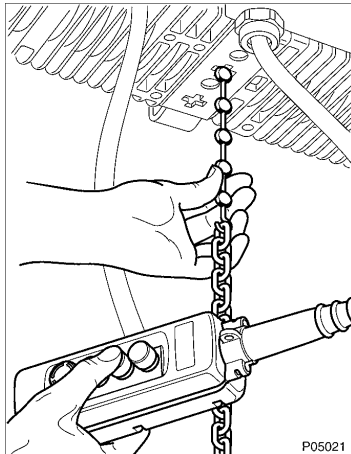

Figure 5.4
1. Attach last link of chain onto hook of CHAIN INSERTION TOOL (item 1, Figure 5.4).
1. If the chain insertion tool is not in the hoist (removal procedure), attach last link of chain onto hook of CHAIN INSERTION TOOL (item 1, Figure 5.4).